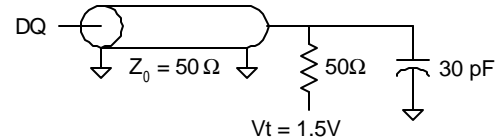

Fig. 1 OUTPUT LOAD EQUIVALENT
| Output load | See Figures 1 and 2 |
- Test conditions as specified with the output loading as shown in Fig. 1 unless otherwise noted.
- Capacitance derating applies to capacitance different from the load capacitance shown in Fig. 1 or Fig. 3, for 3.3V or 2.5V I/O respectively